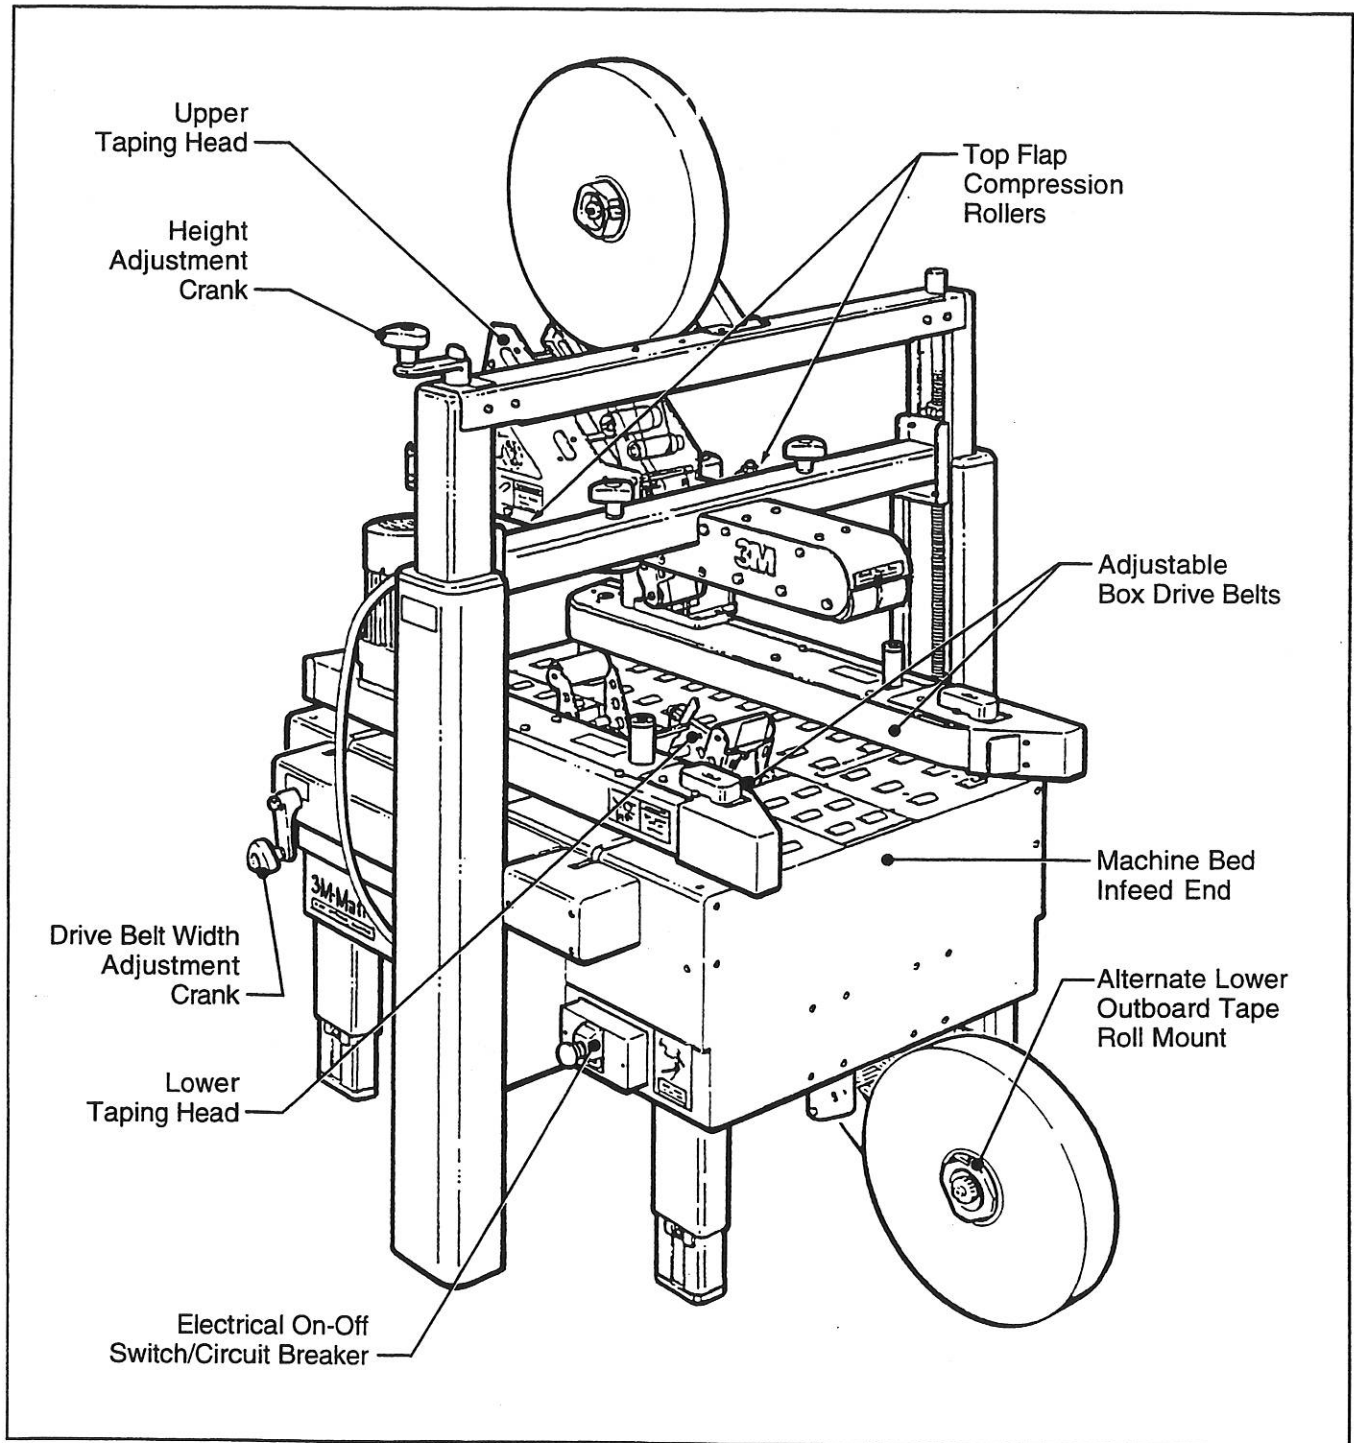

Figure 3-1 – Case Sealer Components, Left Front View
The following instructions are presented in **the order recommended** for setting up and installing the case sealer. Following them step by step will result in an installation in your production line that best utilizes the many features built into the case sealer. Refer to Figure 3-1 to identify the various components of the case sealer.
The electrical control box, shown in Figure 3-1, contains the "On/Off" switch with pre-set circuit breaker and can be located on either side of the machine frame for customer operating convenience. A standard three conductor power cord with plug is provided at the back of
Refer to Figure 3-1 to acquaint yourself with the various components of the case sealer and also see Section II, page 6, for taping head components.
7. Taping heads utilize extremely sharp knife blades. The blade is located under the orange blade guard that has the "WARNING – SHARP KNIFE" label. Before loading tape, refer to Section II, page 6, Figures 3-1 and 3-2 to identify the blade location. Keep hands out of these areas except as necessary to service the taping head(s).